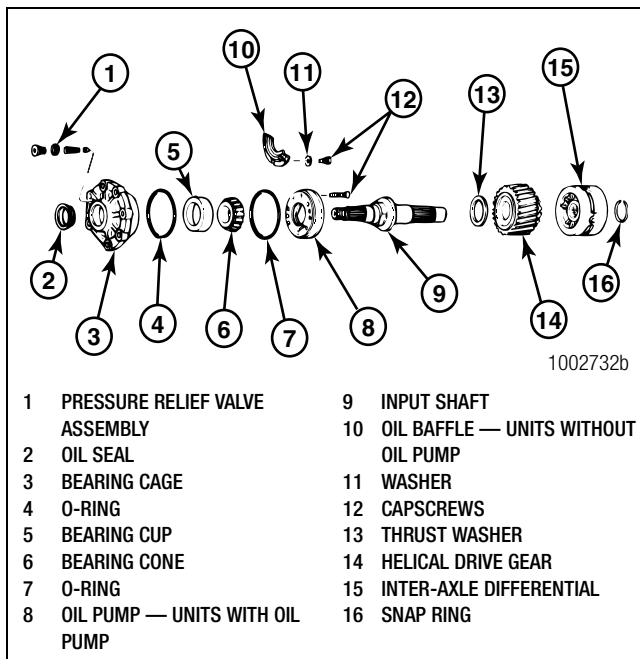

Figure 3.28
1. Use the correct tool to remove the yoke or flange from the input shaft. Figure 3.27. If the carrier is not equipped with an oil pump, remove the bearing cage from the input shaft. Figure 3.28.